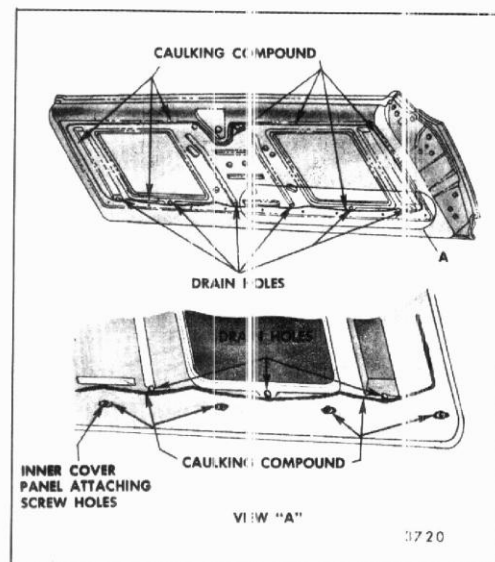

Fig. 9-44-Tail Gate Sealing
3. If needed, apply a bead of body caulking compound (approximately 3/16" diameter) to tail gate inner panel (See Fig. 9-44). The inner panel cover attaching screw holes should also be sealed with body caulking compound.